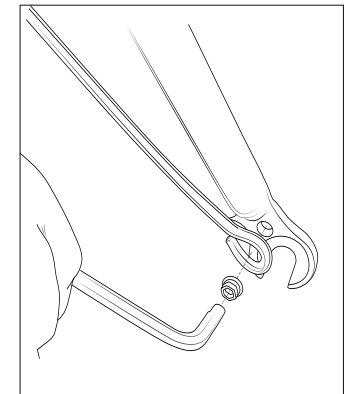

Fig. 11
3. Position the fender braces to the mounting holes on the fork dropouts. It's okay to squeeze inward as these braces are designed to be pliable. Partially thread the screw through the fender brace end hole and into the dropout—repeat for the other side. When both braces are partially attached, tighten the brace screws to complete the install (**Fig. 11**).